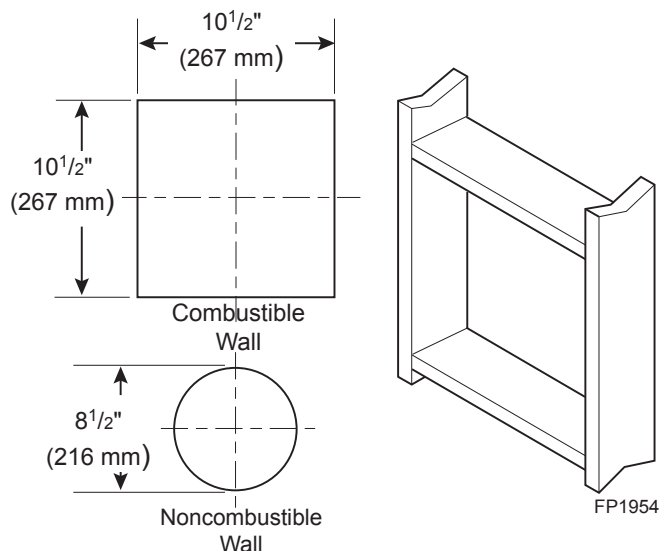

Figure 25 - Exterior Wall Framing Dimensions for 5" x 8"
Combustible Exterior Walls: Cut a 10½"H x 10½"W square hole through the exterior wall frame. *Figure 25*
2. The center of the hole should line up with the center line of the horizontal rigid vent pipe end. Allow 1/4" minimum rise per foot. *Figure 25*